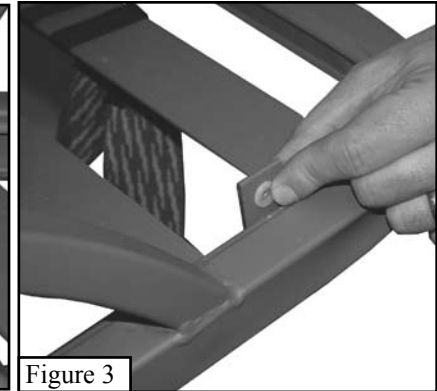

Figure 3
Step 4. Insert the short shank bushing into the outside of each footrest bracket from **Step 1** (See **Figure 3**).